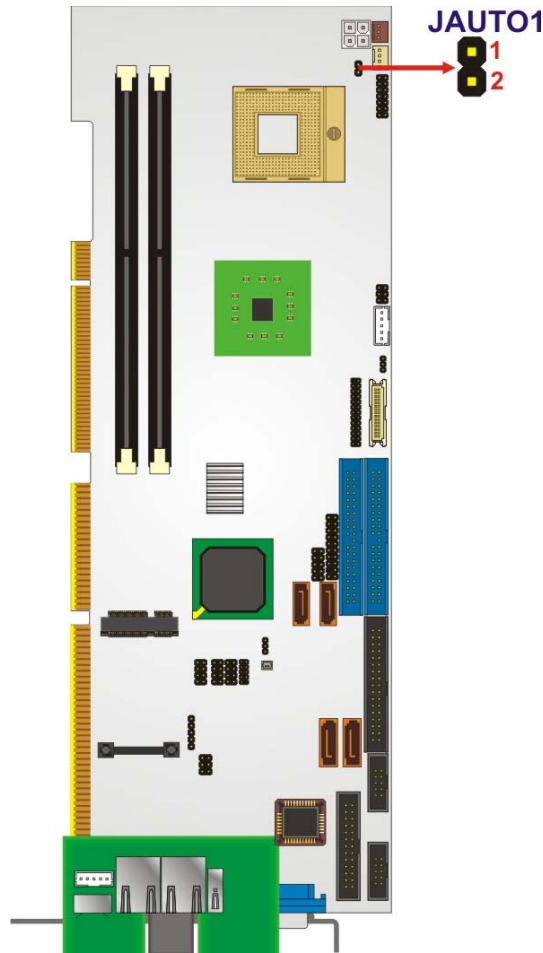

Figure 5-14: AT Power Select Jumper Location
- Jumper Location:** See **Figure 5-14**
The location of the AT Power Select jumper is shown in **Figure 5-14** below.